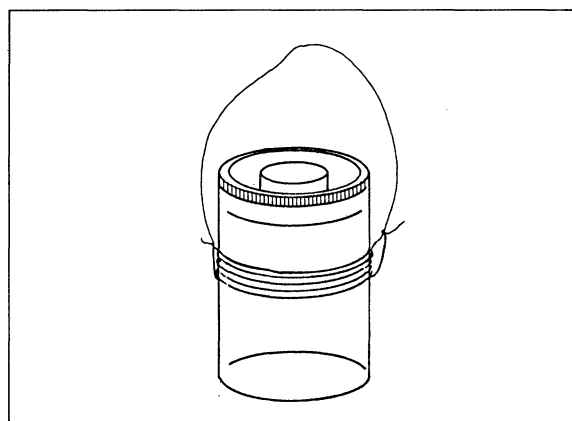

Fig. 1.1 One way of hanging the round tin.
4. Attach the rubber ring and cord to the round tin, as shown in fig. 1.1.